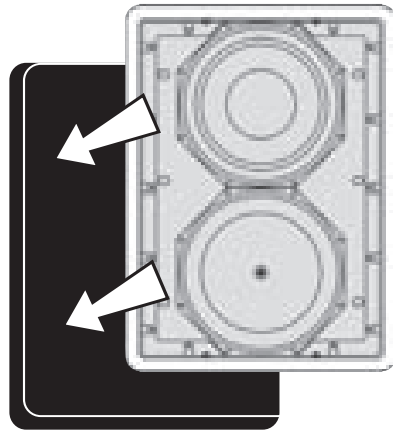
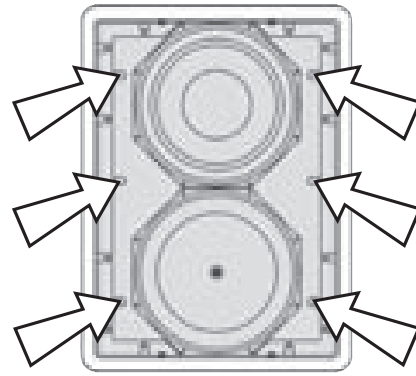

Figure 5
Figure 6
7. Place the subwoofer carefully into the hole [Figure 5]. Secure the sub enclosure using the 6 screws provided. These screws go into the holes in the front of the enclosure and angle back into the studs (or, if the space between your studs was wider than 14¹/₂"–15¹/₂", into the shims). [Figure 6] Tighten all the screws on one side before installing and tightening the screws on the other side.